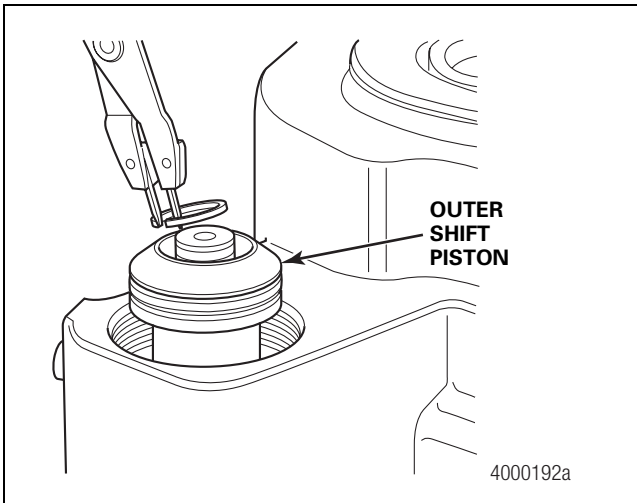

Figure 6.30
4. Install the outer shift piston outer snap ring onto the shift shaft. Figure 6.30.